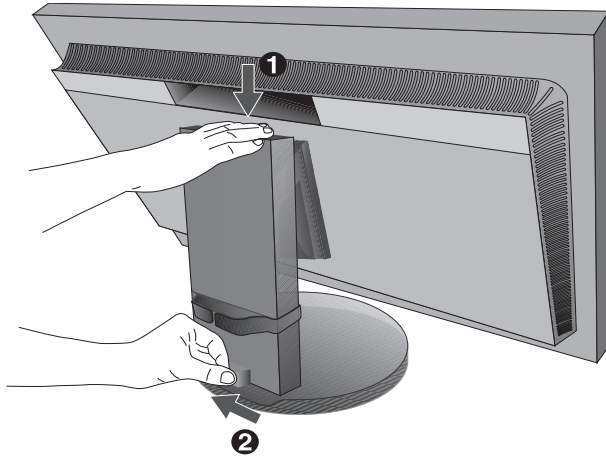

Figure B.1
- Height adjustment is locked by a lock switch. Place a hand on top of the stand and push the screen down to the lowest position. Slide the lock switch to unlock the stand (**Figure B.1**).